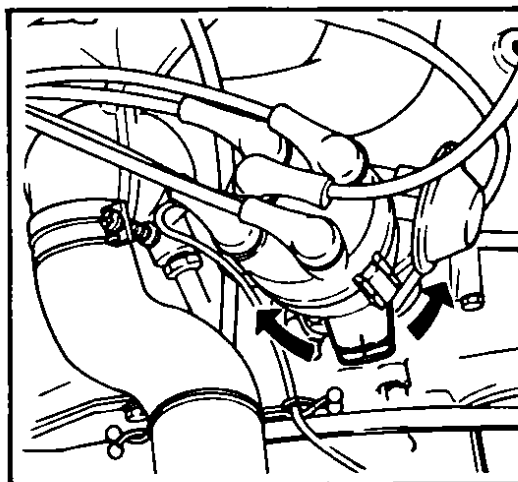

Fig 37 Holddown bolt location
- 9 To adjust the timing, loosen the holddown bolt and turn the distributor left or right until the correct timing is indicated. Then, tighten the holddown bolt, Fig 37.